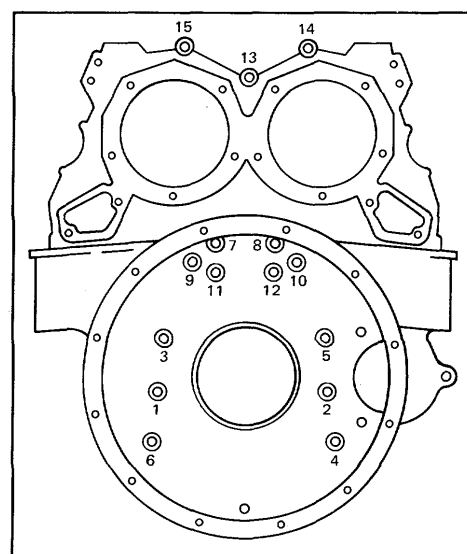

Figure 4. Flywheel Housing Bolt Tightening Sequence (Operation 2) - In-Line Engine
9. Refer to Fig. 4 for the final bolt tightening sequence on an in-line engine. Then start at No. 1 and tighten the bolts to the specified torque.